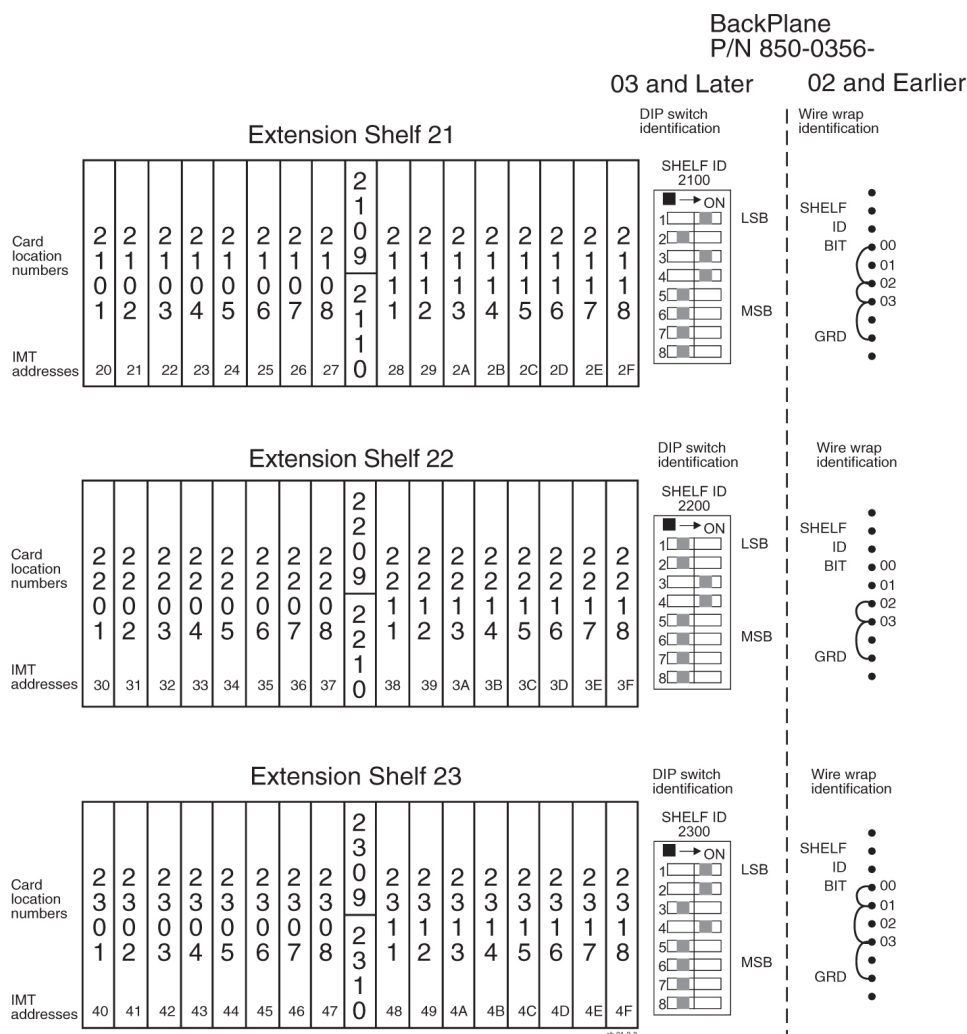

Figure 64: Extension Frame EF-00 Numbering Plan
*Figure 64: Extension Frame EF-00 Numbering Plan* through *Figure 68: Extension Frame EF-04 Numbering Plan* show the numbering of the card locations on the extension frames. Along with shelf DIP switch settings and ID wire wrap.